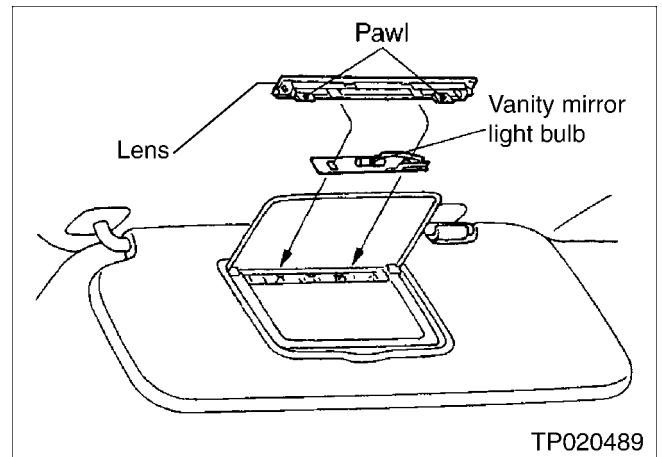

Figure 2
1. Replace the original sunvisor vanity mirror light bulb and lens with a replacement bulb and lens (see Figure 2). See the PARTS INFORMATION section for detail: